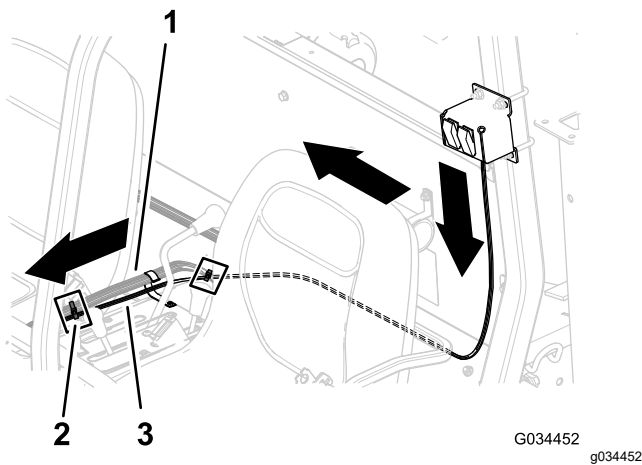
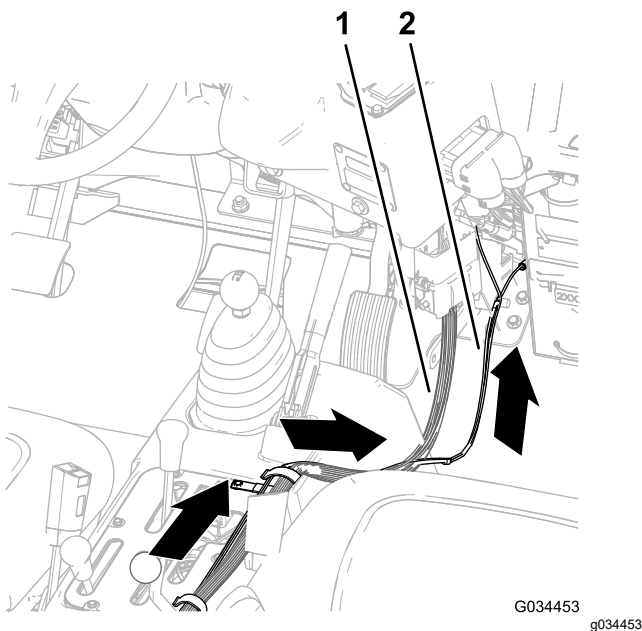

Figure 17
Figure 18
2. At the light switches, route the branch of the wire harness with the socket terminal and ring terminal down and across the back of the operator's seat as shown in Figure 17.
3. At the center console, route the wire harness for the rear work light kit along the wire harness for the sprayer and forward toward the fuse block (Figure 17 and Figure 18).
4. Secure the wire harness for the rear work light kit to the wire harness for the sprayer with cable ties as shown in Figure 16 and Figure 17.